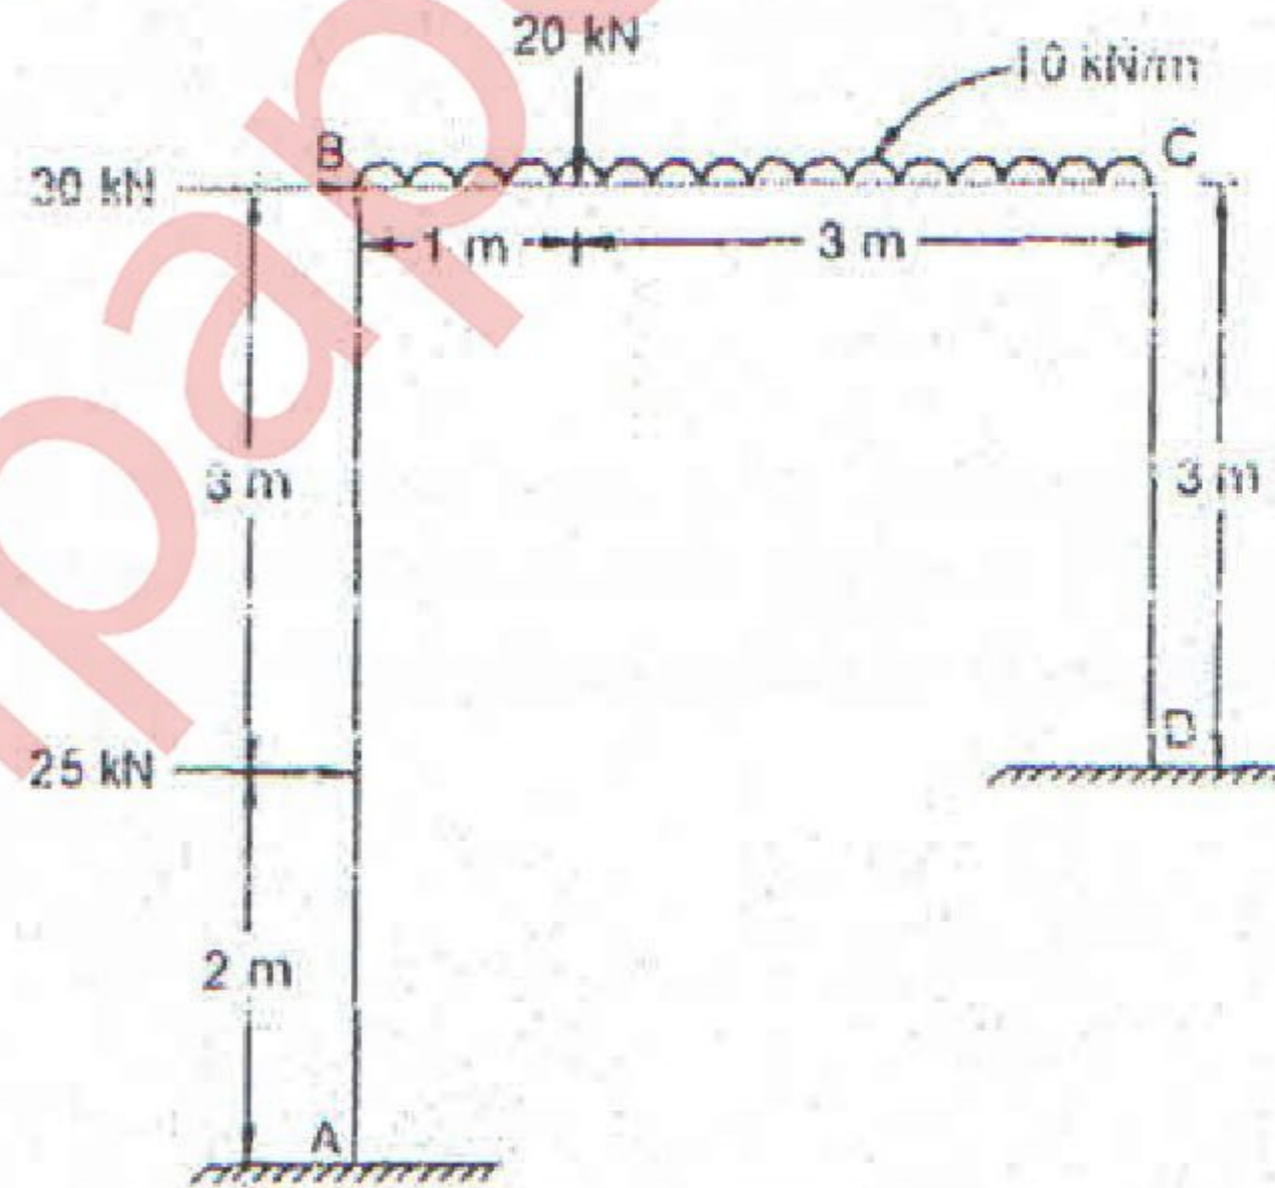

Figure 5
5. Using **Slope Deflection Method or Moment Distribution Method**, analyse the frame loaded and supported as shown in figure 5. Also draw BMD and deflected shape of the frame. [20]